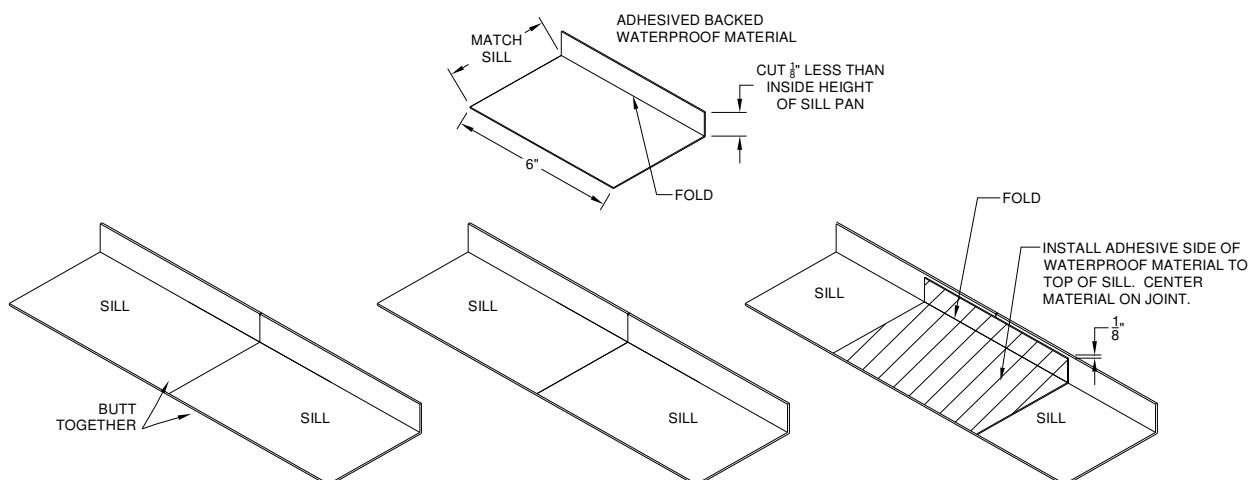

Figure 6:
- Cut a piece of adhesive backed waterproof material to fit the joint as specified in Figure 6, $A=1/4"$. Select waterproofing material that is compatible for your application. Waterproofing material must have an adhesive backing and be capable of withstanding the temperature ranges for your region.